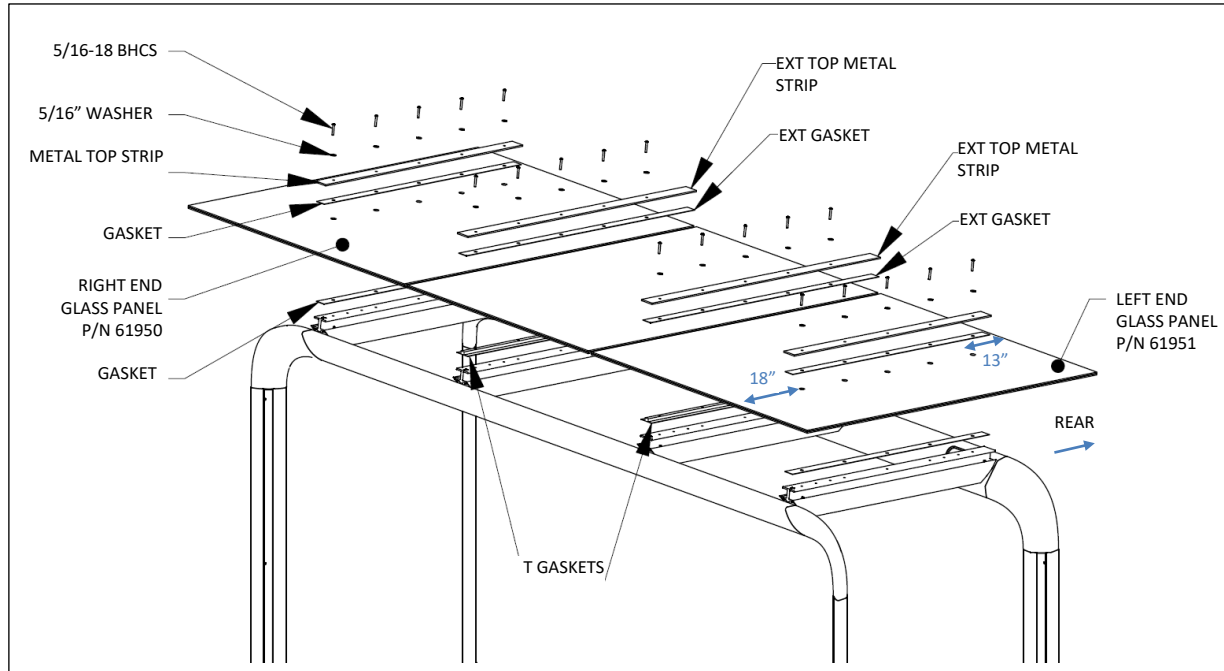

Fig. D2 – Glass roof installation
2. Place gaskets on rafters. T-gaskets are installed in intermediate locations, See Fig.D2.
4. Place gaskets on top of roof panels. See Fig. D2 for location of extended roof gaskets.
5. Place metal top strips in position on top of gaskets. See. Fig. D2 for location of extended metal top strips.